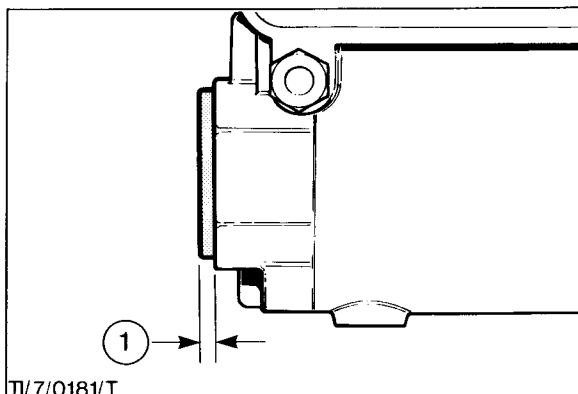

Fig. 66 - Expansion Plug Installation
2. Apply a thin coat of suitable sealant to the outer edge of a new expansion plug and press it into position in the end of the cambox from inside, until the domed surface of the plug is 3 to 4 mm (0,12 to 0,16 in) above the surface of the cambox (Fig. 66).